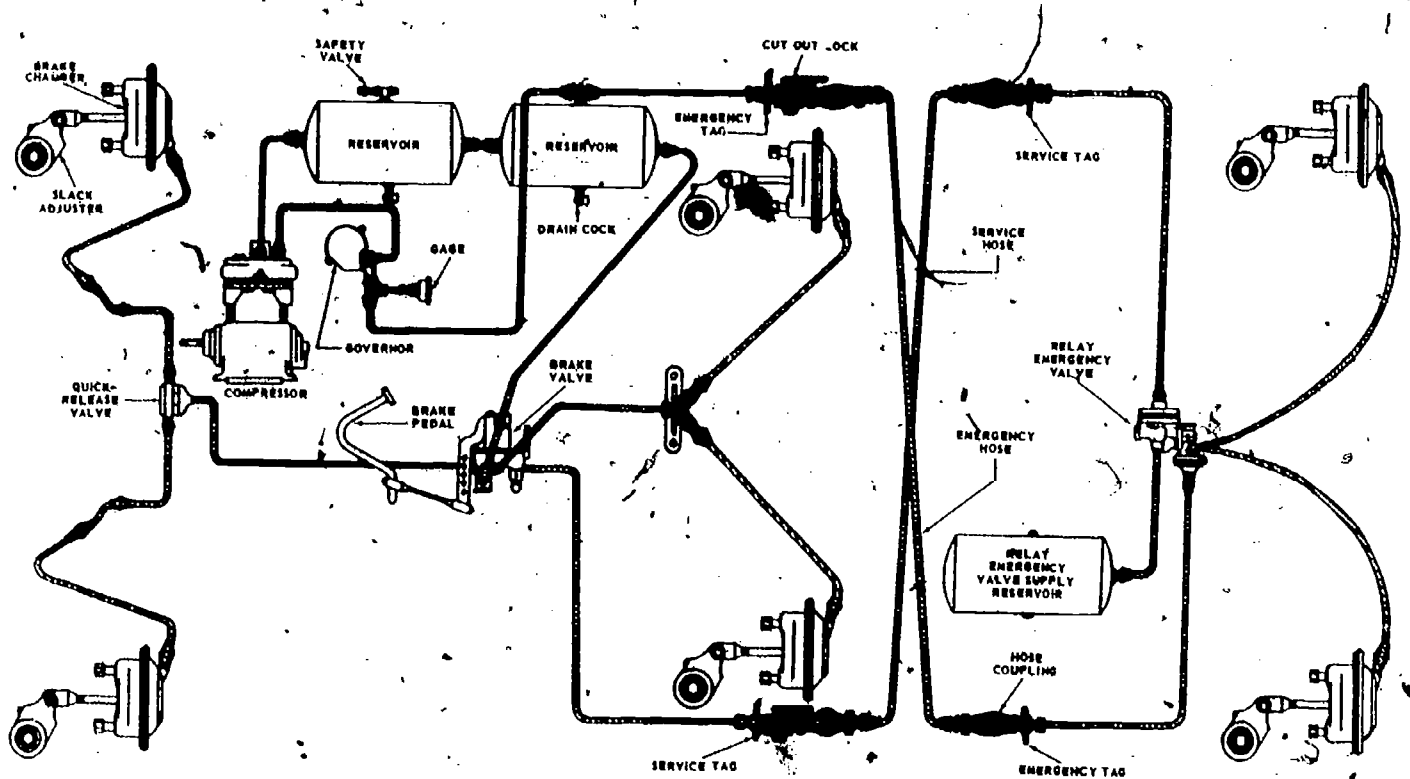

Fig 2-61. Diagram of an airbrake system in a tractor-trailer combination.
(2) Airbrake systems (fig 2-61).